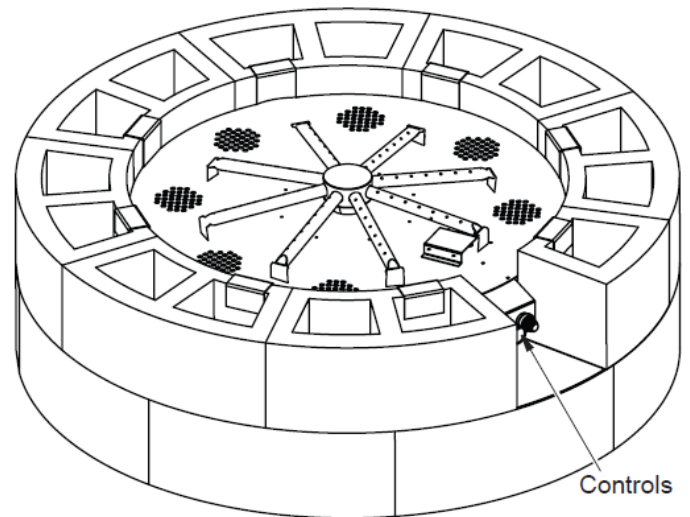

Figure 14 - Burner System
10. Place burner system on the retainer brackets in the center of the fire ring with the controls going through the opening in the blocks (see Figure 14). **DO NOT GRASP BURNER SYSTEM BY BURNER TUBES.**